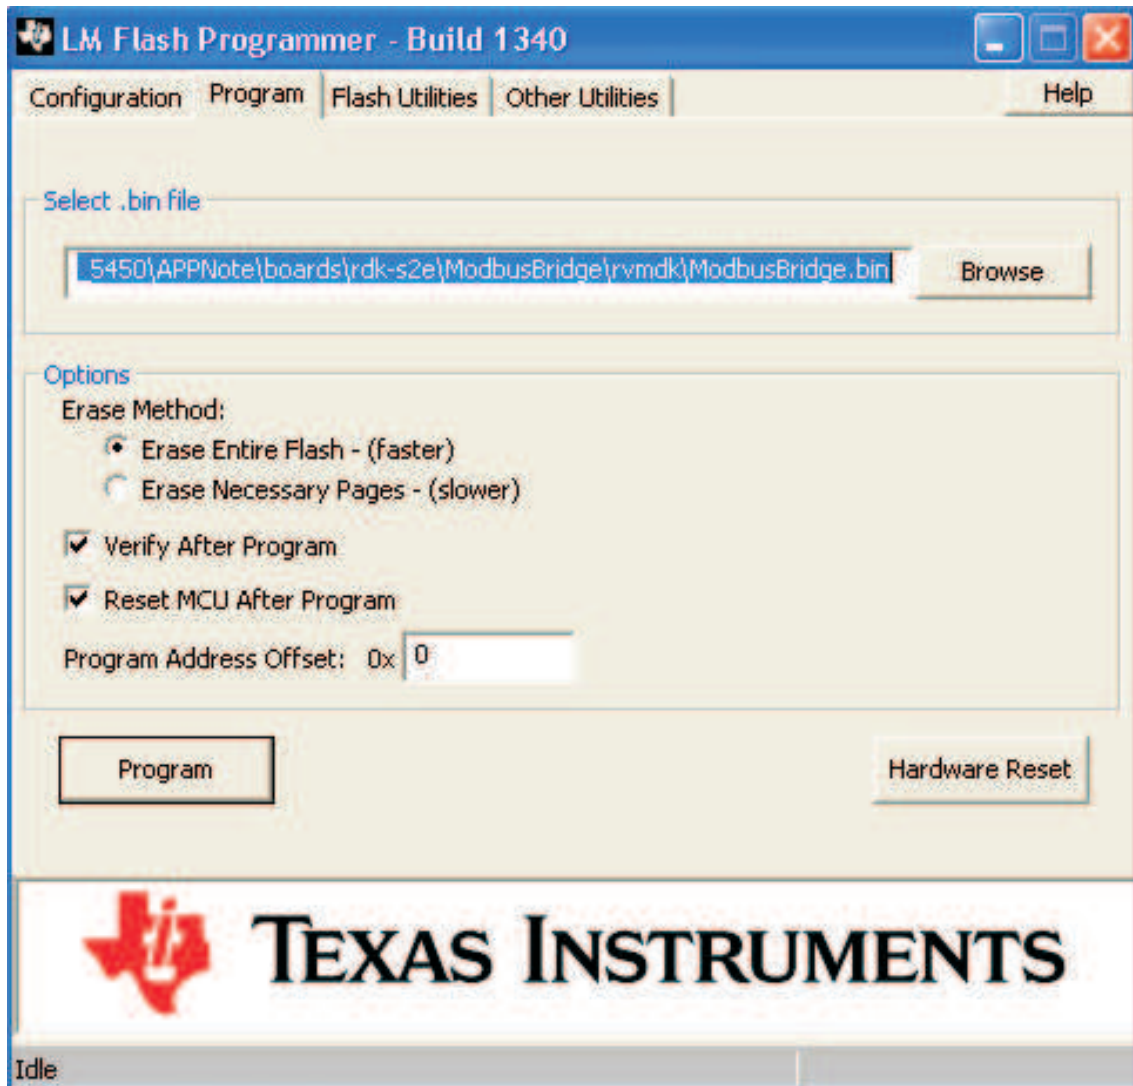

Figure 3. LMFlash Programmer Settings
2. Program the S2E-RDK with *ModbusBridge.bin* in the `boards\rdk-s2e\ModbusBridge\rvmdk` directory, using the LMFlash programmer utility (see Figure 3).